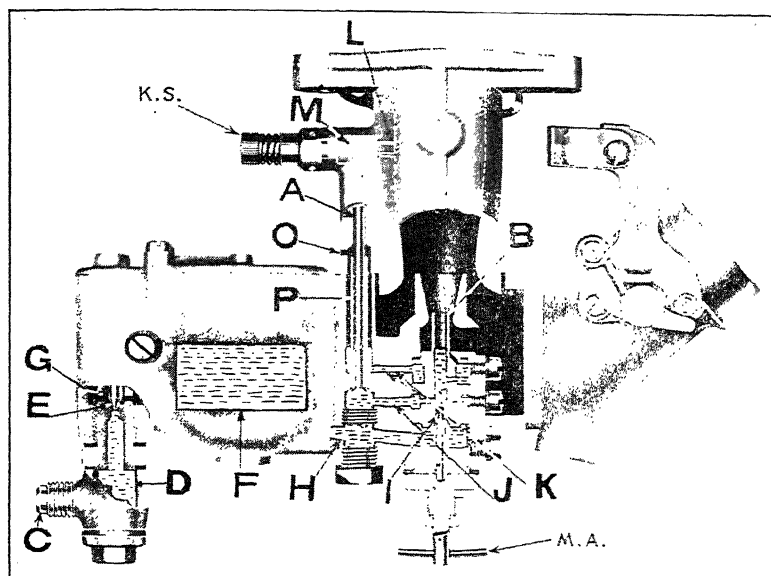
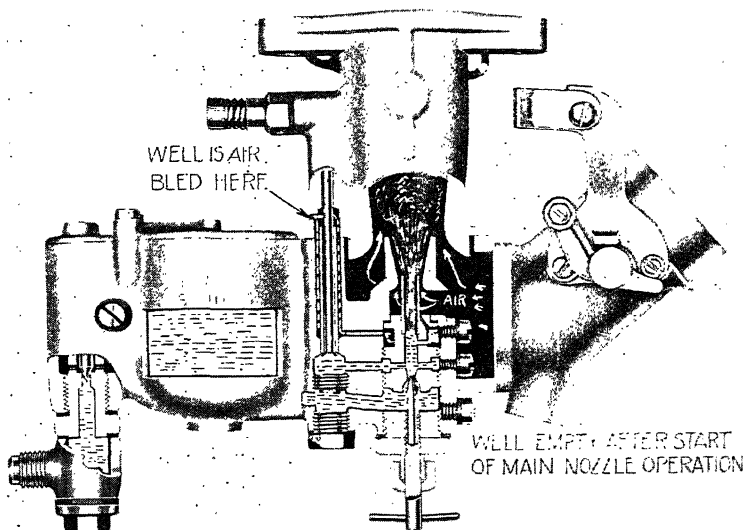

Fig. 114. Cross Section of Nozzles and Other Constructional Features of the Tillotson "S-4D" Carburetor
Fig. 116. This Illustration Shows the Accelerating Well Dry and Air Bleeding through It to the Main Jet
**Arrangement of Nozzles and Functioning Parts.** There are two sources of mixture delivery. At *A*, Fig. 114, is the by-pass or low-speed nozzle tube and at *B* the main or high-speed nozzle. Gasoline enters the carburetor through connection *C*, passes the strainer *D* and the inlet needle valve *E*, from whence it delivers into the float bowl chamber *F*. When the fuel reaches a point  $\frac{13}{16}$  inch from the top edge of the float bowl, the float acts upon the needle *G*, closing off the supply. From the float bowl, the gasoline enters channel *H*, flows upward through the main nozzle adjustment restriction *I*, across channels *J* to the head of the by-pass
tion of the pistons within the cylinders, timed by valves in the poppet type of motor, creates a vacuum above the throttle shutter. Connecting the throat above the shutter with the by-pass mixing chamber *M* is a small hole at *L*, Fig. 114. Suction induces an emulsion of gasoline and air to pass upward through the by-pass tube to the mixing chamber *M* where air is again admitted through low-speed adjustment *KS*, causing the emulsion to be turbulated and drawn through hole *L* at high velocity. Thus the idling mixture requirements are satisfied.
to emulsify the fuel drawn out of the main nozzle. A close study of Fig. 116 will disclose that the source of air which bleeds these nozzles comes from a small hole in the upper half of the body casting at *O*, Fig. 114. Air passes into this hole downward between the auxiliary tube *P* and the body casting, thence across channel *K* into the main nozzle.